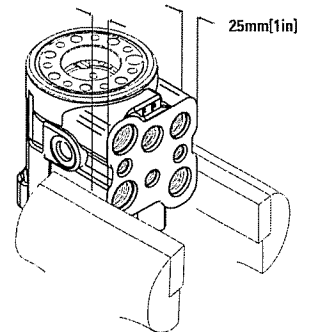

Figure 21
16. Clamp housing in vice (figure 21).